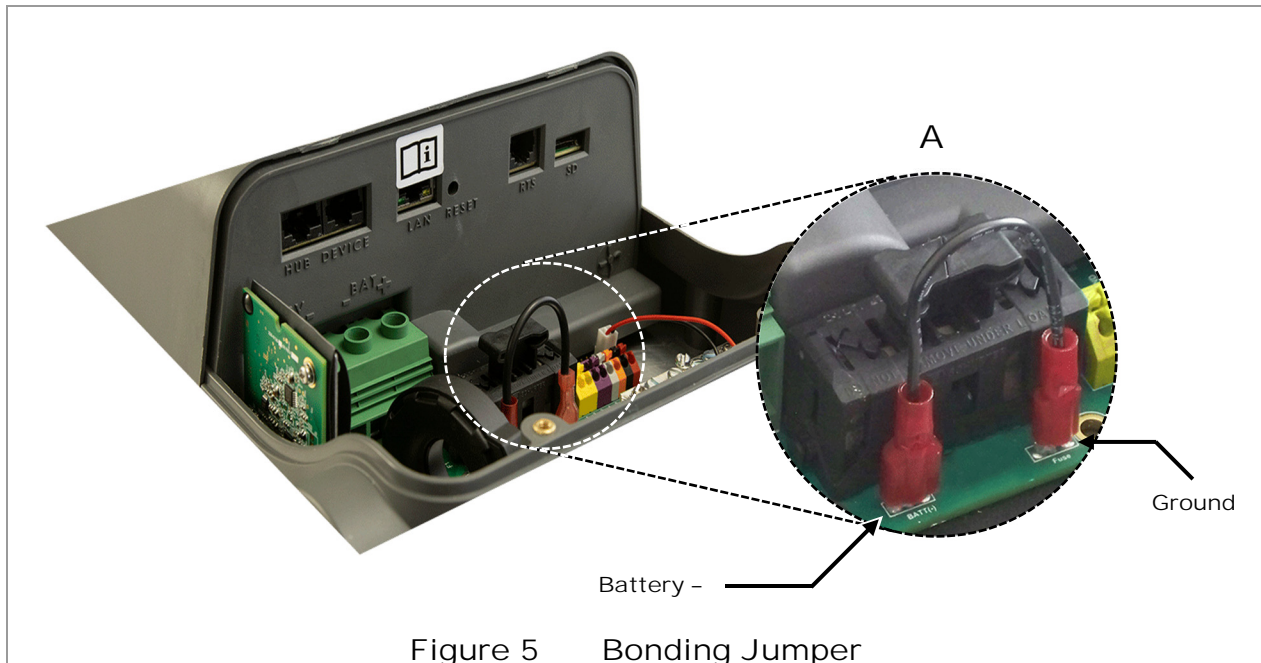

Figure 5 Bonding Jumper
The FLEXmax 100 uses a jumper wire to create a functional ground for one conductor. Connecting this wire completes a mechanical connection (bond) between one battery conductor and the ground. The default position creates a negative-to-ground bond, the most common configuration (item A in Figure 5).
- Remove the bonding jumper wire (item A in Figure 5).
If alternate PV system grounding configurations or GFDI methods are required, remove the ground bonding jumper wire from all FLEXmax 100 controllers (see Figure 5 on page 13). Do not remove the GFDI fuses from any controllers. Once the bonding wire has been removed, the external ground fault device can be installed according to its own instructions.